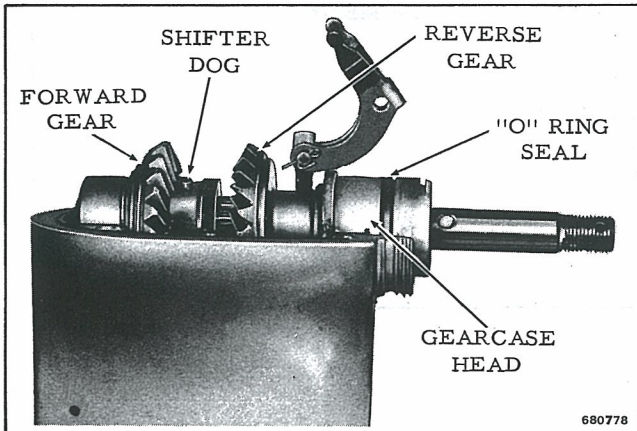

Figure 6-11. Propeller Shaft Assembly
d. Swing shifter lever aside. It need not be removed. See Figure 6-11.
e. Lift propeller shaft with gearcase head, drive gears, thrust washers, shifter clutch dog, and front bearing out of gearcase as an assembly. Slide these components off shaft. See Figure 6-11. Remove pinion gear. Pinion bearing in upper gearcase is not serviced.